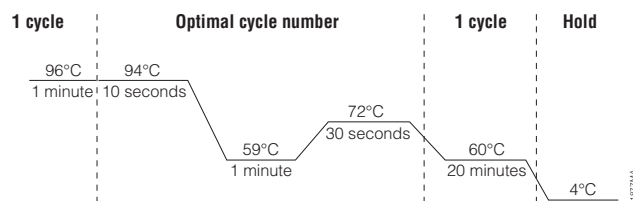

Figure 2. Thermal cycling protocol for the GeneAmp® PCR System 9700, Veriti® 96-Well Thermal Cycler and ProFlex® PCR System.
2. Select and run the recommended protocol, which is provided below and in Figure 2.